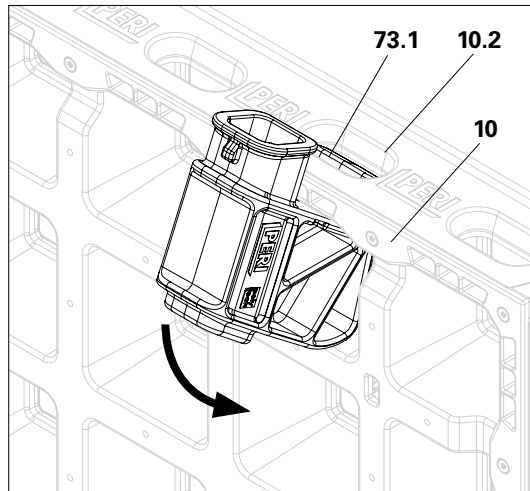

Fig. B4.06
1. Position the bracket (**73.1**) of the DUO front post holder (**73**) at the grip hole of the DP panel (**10.2**). (Fig. B4.06)